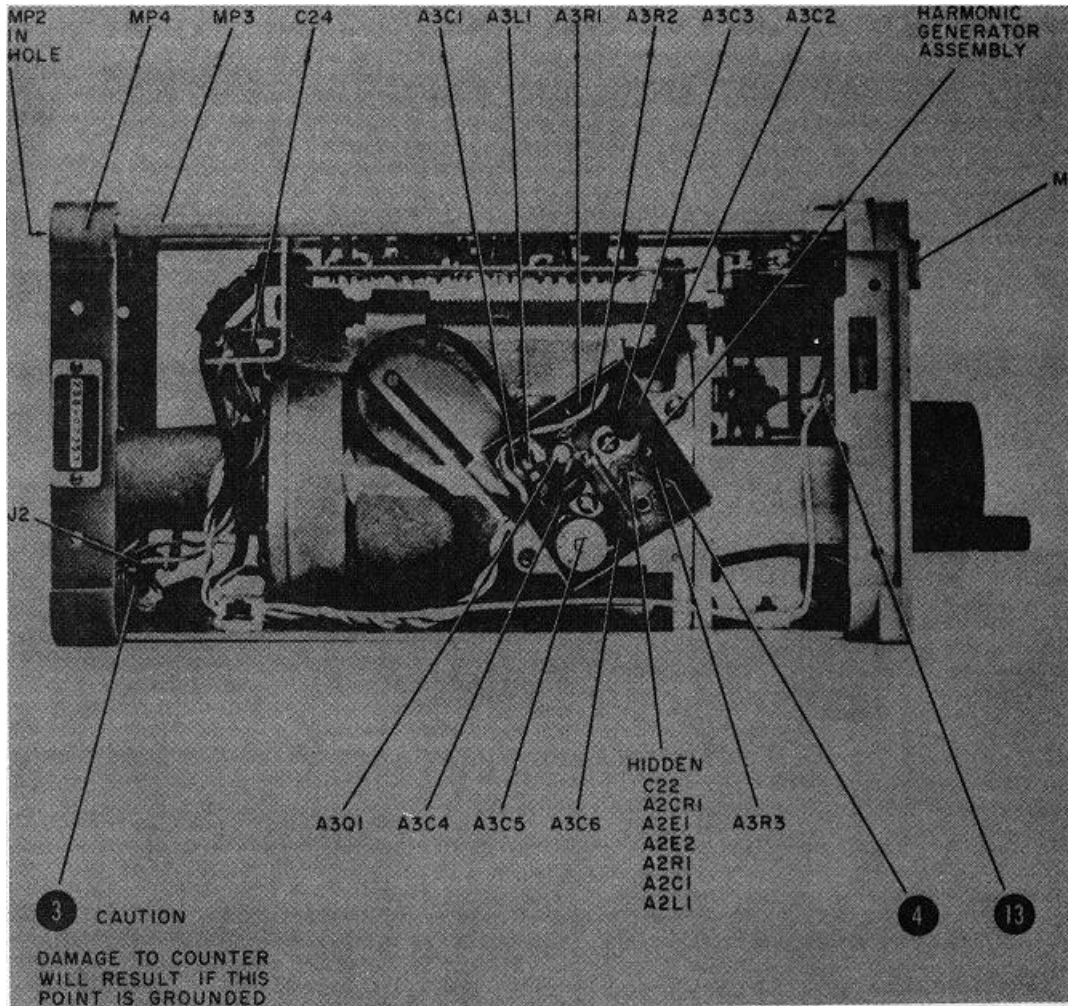

Figure 5-2. Left Side View
- e. Remove screw (MP2) which holds aluminum spacer-rod (MP3) to plastic rear-support (MP4; see Figure 5-2). Grasp spacer-rod and turn counterclockwise to remove rod from front support.
f. Using plastic tuning tool, tune A3C5 (see Figure 5-2) for maximum reading on RF Millivoltmeter. Tune A3C5 through hole in harmonic generator assembly shield cover.